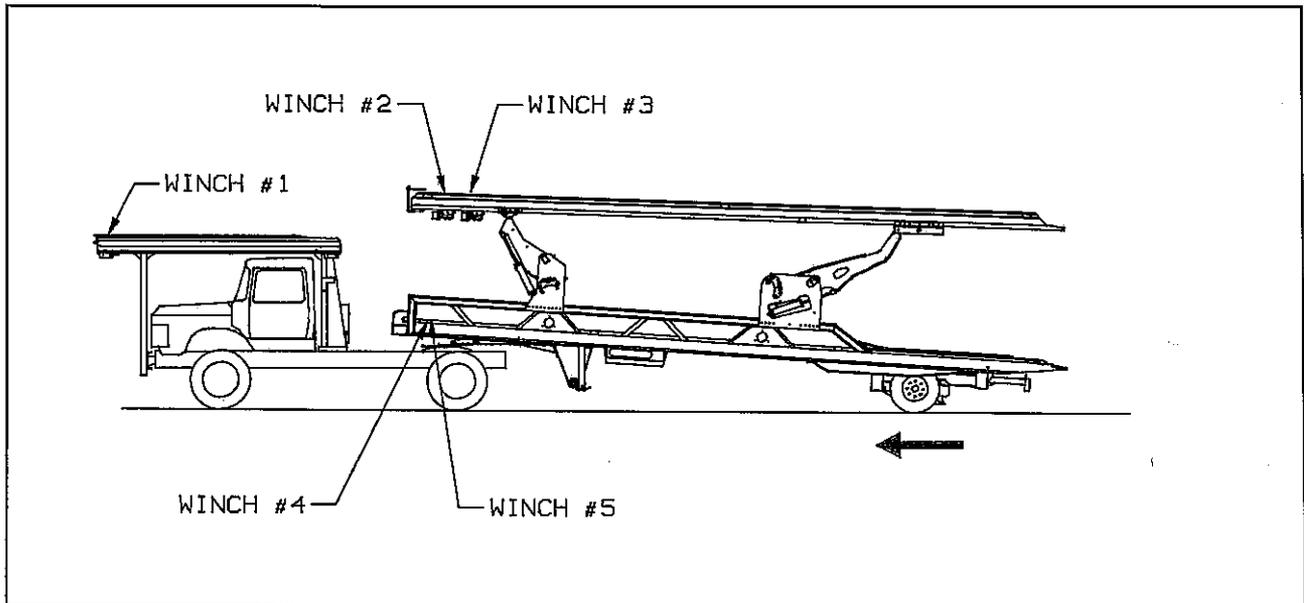

Figure 3-6 Preparation for Loading
- a. Park the tractor/trailer in a straight line on a level even surface. Set the tractor brakes and release the semitrailer brakes. (See Figure 3-6.)
g. Prepare the first vehicle to be winched onto the trailer. Connect winch #2 (see Figure 3-6) to the first vehicle and pull it to the front of the upper deck. Secure the vehicle so it will not roll forward or backward.
- e. Free-wheel the winch cable from winch #3 (see Figure 3-6) out until it is at the rear of the upper deck so it is accessible after loading the next vehicle.
- f. Connect winch #2 (see Figure 3-6) to the next vehicle and pull it to the front of the upper deck. Make sure there is adequate clearance between the over-cab vehicle and the vehicle on the trailer to allow for swing clearance. 2-1/2 feet clearance is usually required. Secure vehicle with chains (see paragraph 3-11.7).
g. Connect winch #3 (see **Figure 3-6**) to the next vehicle and pull it to the rear position on the upper deck. (See **Figure 3-9**.) Secure with chains (see **paragraph 3-11.7**).
c. Free-wheel the winch cable from winch #5 (see **Figure 3-6**) out until it is at the rear of the lower deck so it is accessible after loading the next vehicle.
d. Connect winch #4 (see **Figure 3-6**) to the next vehicle and pull it to the front of the lower deck as far as possible without interfering with the upper deck. Secure with chains (see **paragraph 3-11.7**).
e. Connect winch #5 (see **Figure 3-6**) to the next vehicle and pull it to the rear position on the lower deck. (See **Figure 3-11**.) Secure with chains (see **paragraph 3-11.7**).
g. Reel out winch #1 (see Figure 3-6) to allow the vehicle to move off of the Over-the-cab deck and onto the trailer upper deck.
h. After the vehicle is completely on the trailer deck, secure the vehicle so winch #1 (see Figure 3-6) can be disconnected and winch #2 (see Figure 3-6) can be connected to the vehicle.